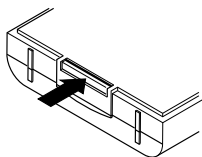

Figure 2
- 2. Open chime case.** Press in catch on bottom of chime and lift the case open (see Figure 2).